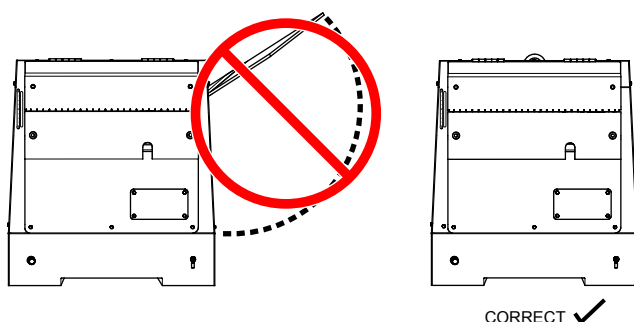

Figure 22. Generator Doors
2. **NEVER** operate the generator with the doors **open** (Figure 22). Operation with the doors open may cause insufficient cooling of the unit, and engine damage may result. Close the doors for normal operation.